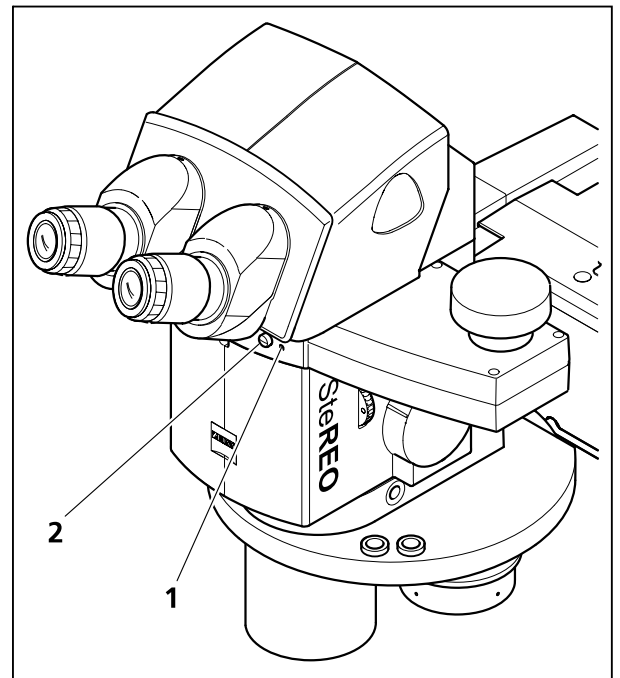

Fig. 50 Intermediate phototube S mot., right 100/100
- Change over the beam path between the camera port (doc) and the binocular tube by briefly pressing the button (Fig. 50/2). If the camera port is active, the blue LED (Fig. 50/1) in the front part of the intermediate phototube is lighting.